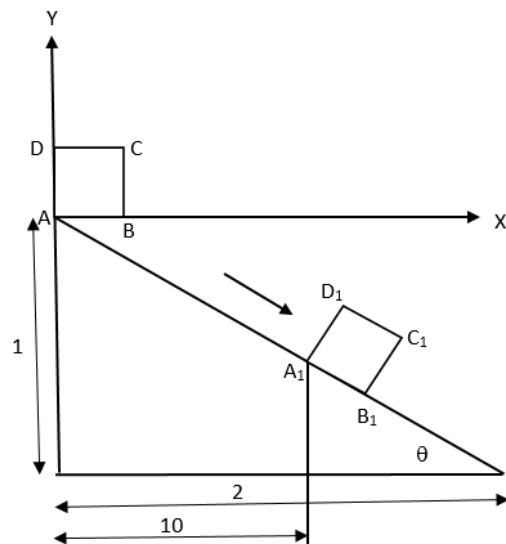

Figure 1
- 1A.** A square ABCD of 5 units side is placed with the origin at the lower left corner as shown in Figure 1. The square has to be moved by 10 units down the inclined plane. The slope of the inclined plane is also shown in Figure 1. The coordinates of the square are A(0,0), B(5,0), C(5,5), and D(0,5). Find the new coordinates A_1, B_1, C_1 and D_1 after performing the necessary geometrical transformations.